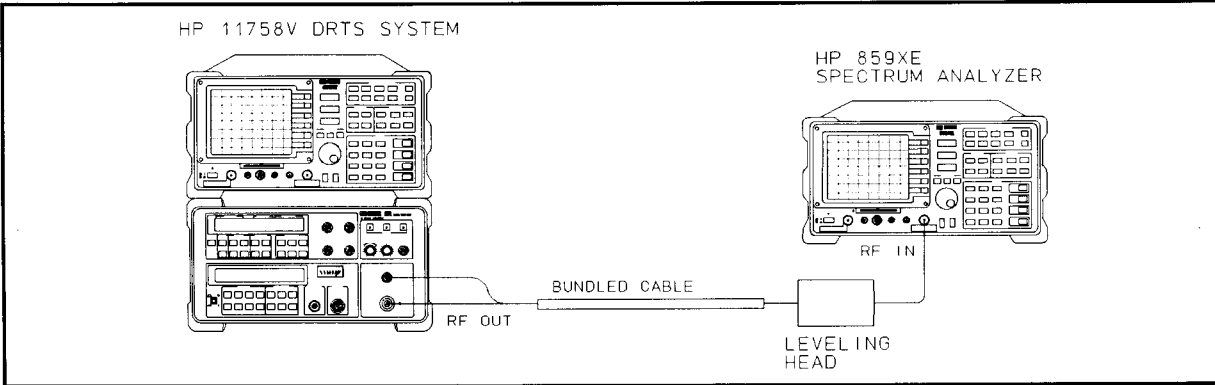

Figure 4-1. Connections for setting RF Source FM deviation
- Connect the RF OUTPUT to the receiver analyzer INPUT using the leveling head and cable. See Figure 4-1
Bring the Transmitter and Receiver together (See Figure 4-1) and conduct an End to End flatness calibration, see (Chapter 3 **End to End Flatness Calibration**).